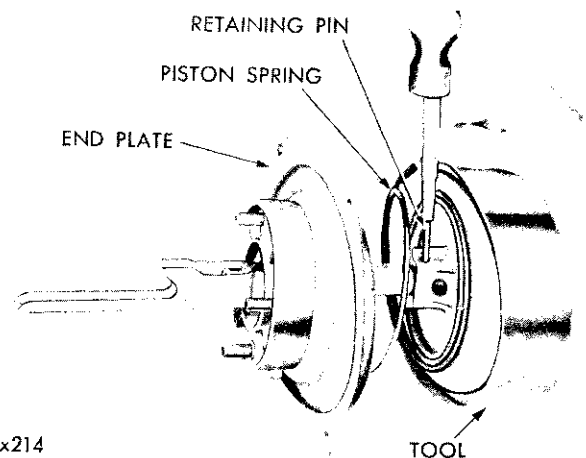

Fig. 67—Installing the Piston Retaining Pins
(10) Slide the vacuum piston on the piston rod and up against the shoulder. Install the retaining pins, as shown in Figure 67.